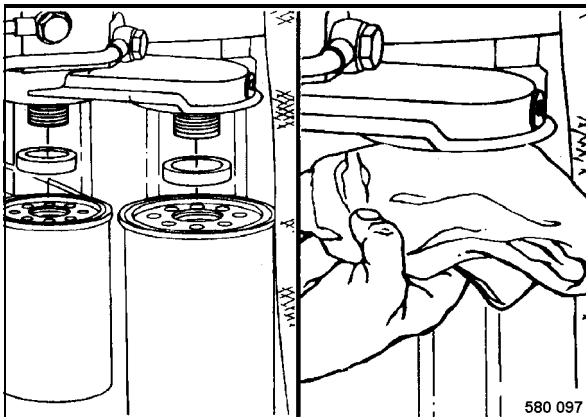

Fig. 95
- Unscrew both filter cartridges (Fig. 95) with a suitable filter wrench.